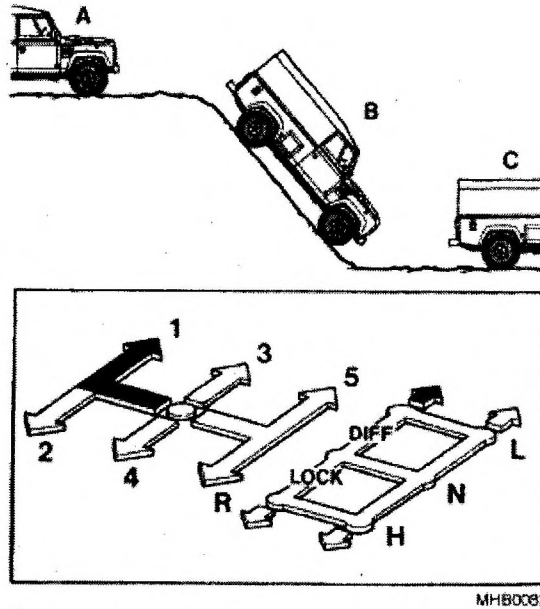

Fig 22 Descending a steep slope
71 Stop the vehicle at least a vehicle length before the slope and engage first gear, low ratio with differential locked (Fig 22 (A)).
71.1 Check gear engagement before moving off. Do not touch the brake or clutch during the descent, the engine will limit the speed, and the vehicle will maintain control while the front wheels are turning (B). If the vehicle begins to slide, accelerate to maintain directional stability.